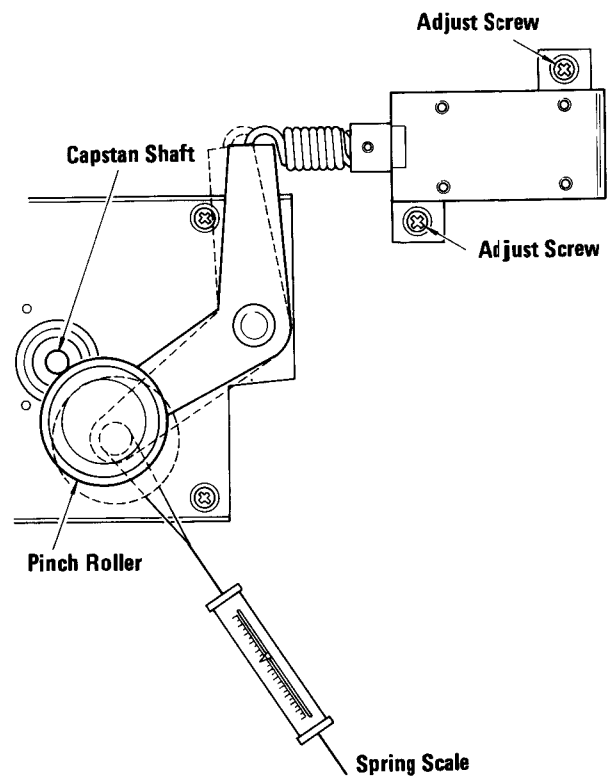

Fig. 2-7
3. Attach a spring scale to the pinch roller as shown in Fig. 2-7.